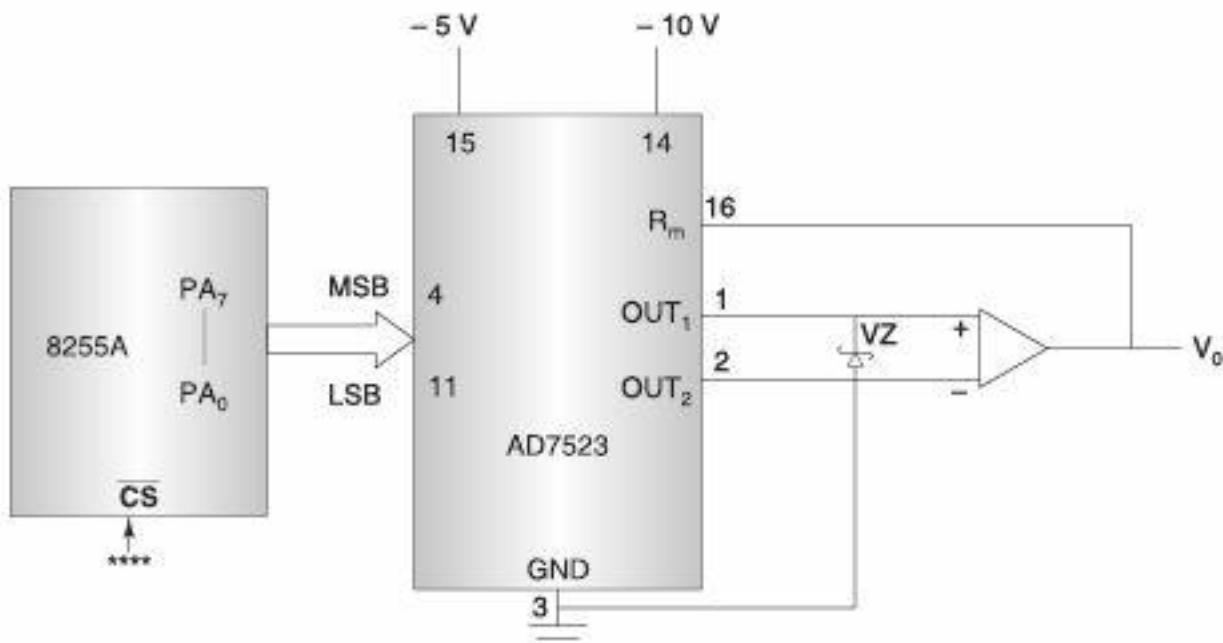

Fig. 5.73 Interfacing of AD7523.
**Solution:** Figure 5.73 shows the interfacing circuit of AD 74523 with 8086 using 8255.